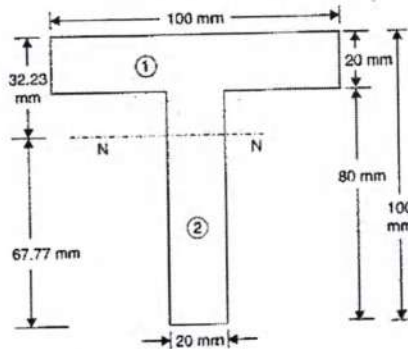

Figure 2
2. A cast iron beam of T section is shown in figure 2. The beam is simply supported on a span of 8 m. The beam carries a uniformly distributed load of 1.5 kN/m length on the entire span. Determine the maximum tensile and maximum compressive stress. [7]